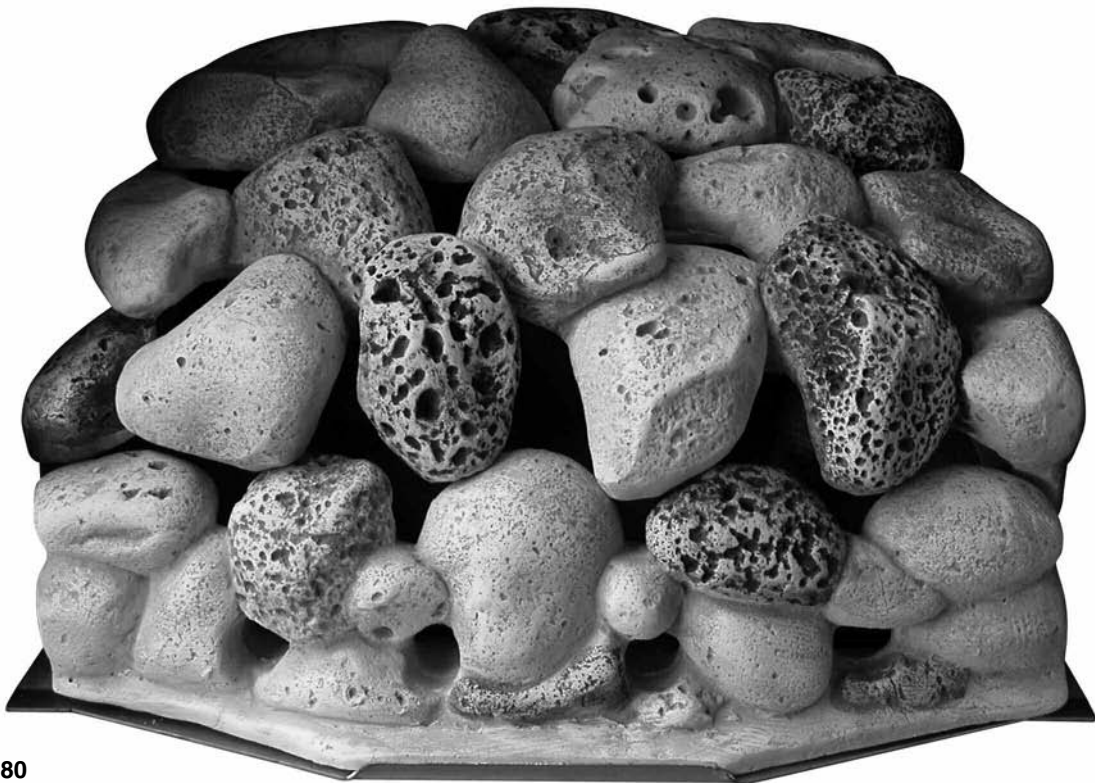

Fig. 80
5. Finally check that all the pebble pieces are 'nested' together correctly (Fig. 80).